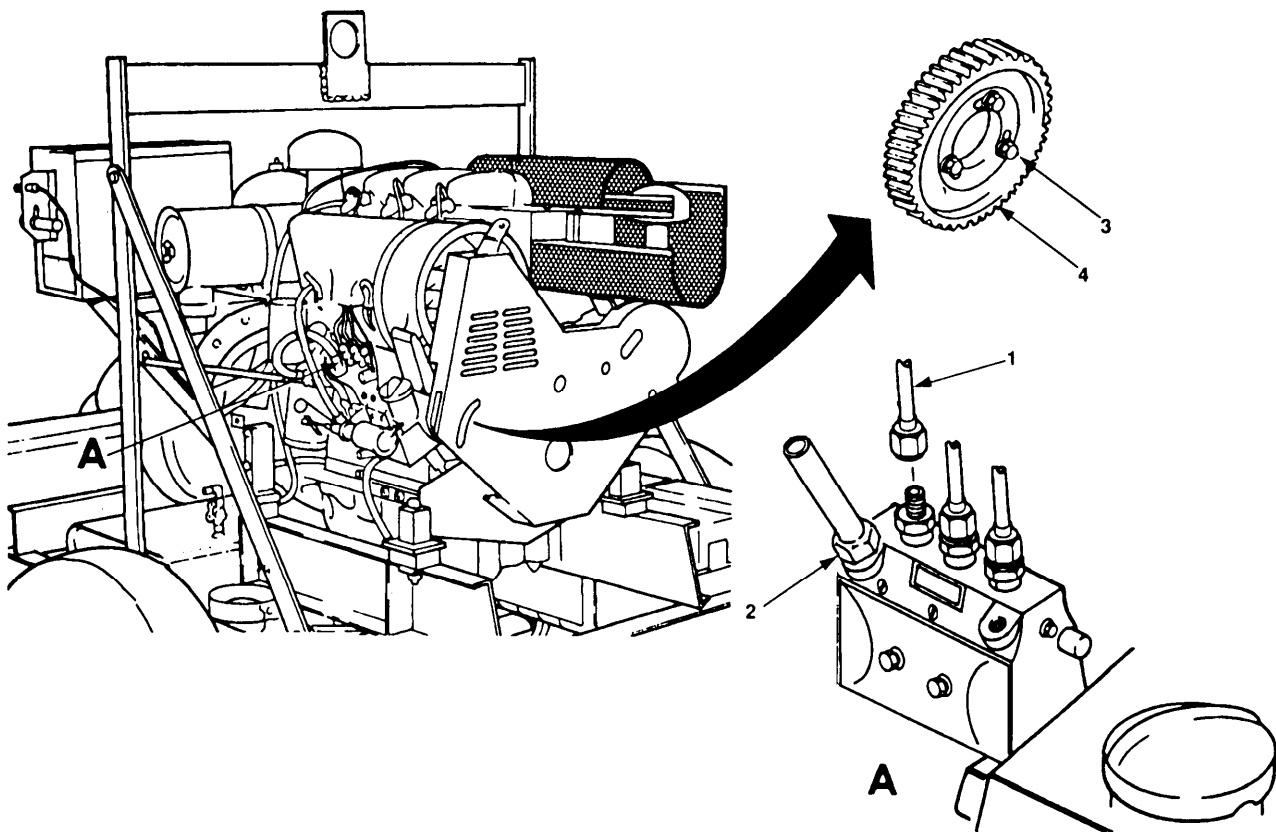

Figure 5-2. Fuel Injection Pump Timing.
- a. Remove Number 1 injection line (figure 5-2, 1) from fuel injection pump and install spill pipe in its place.
- b. Disconnect main fuel supply line (2) from fuel injection pump and connect high pressure line of high pressure hand pump in its place.
- f. Loosen three bolts (3) that secure fuel injection pump drive gear (4).
- h. Holding gear in position, tighten three bolts (3) that secure fuel injection pump drive gear (4).